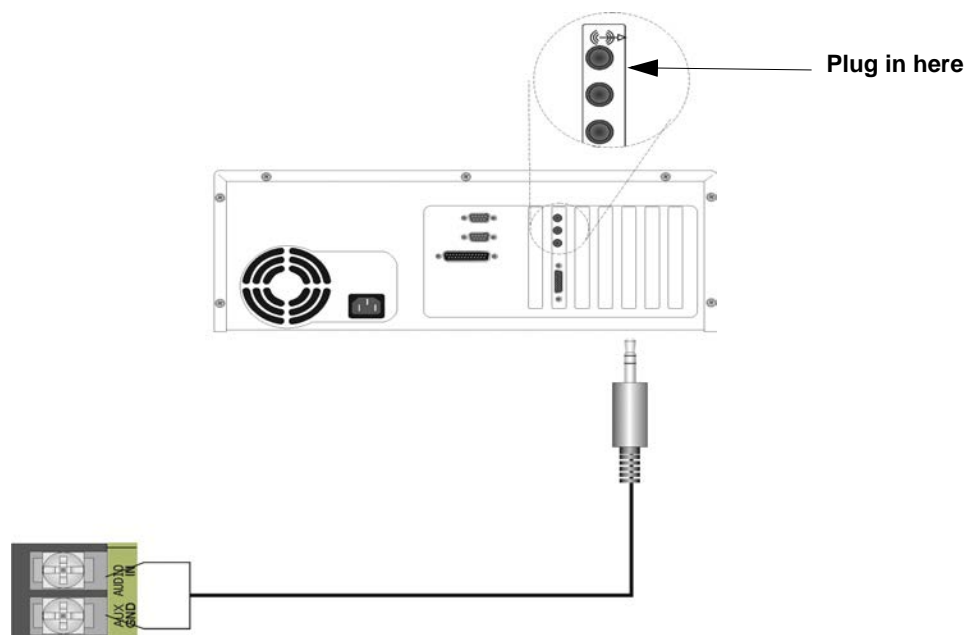

Figure 11.5 AUX Audio Connection for Recording
1. Wire a speaker cable with 1/8" mini plug (Radio Shack Cat. No. 42-2454) to the Aux AUDIO GND and IN terminals. Refer to Figure 11.5.
2. Plug the mini plug into the Line Out/Headphone jack on a PC or laptop. See Figure 11.5.